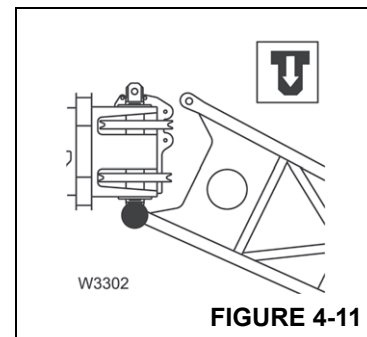

FIGURE 4-11
4. Lift the bi-fold extension in front of the main boom with the auxiliary crane and lock the 33 ft (10.1 m) section to the right of the main boom head (Figure 4-11).